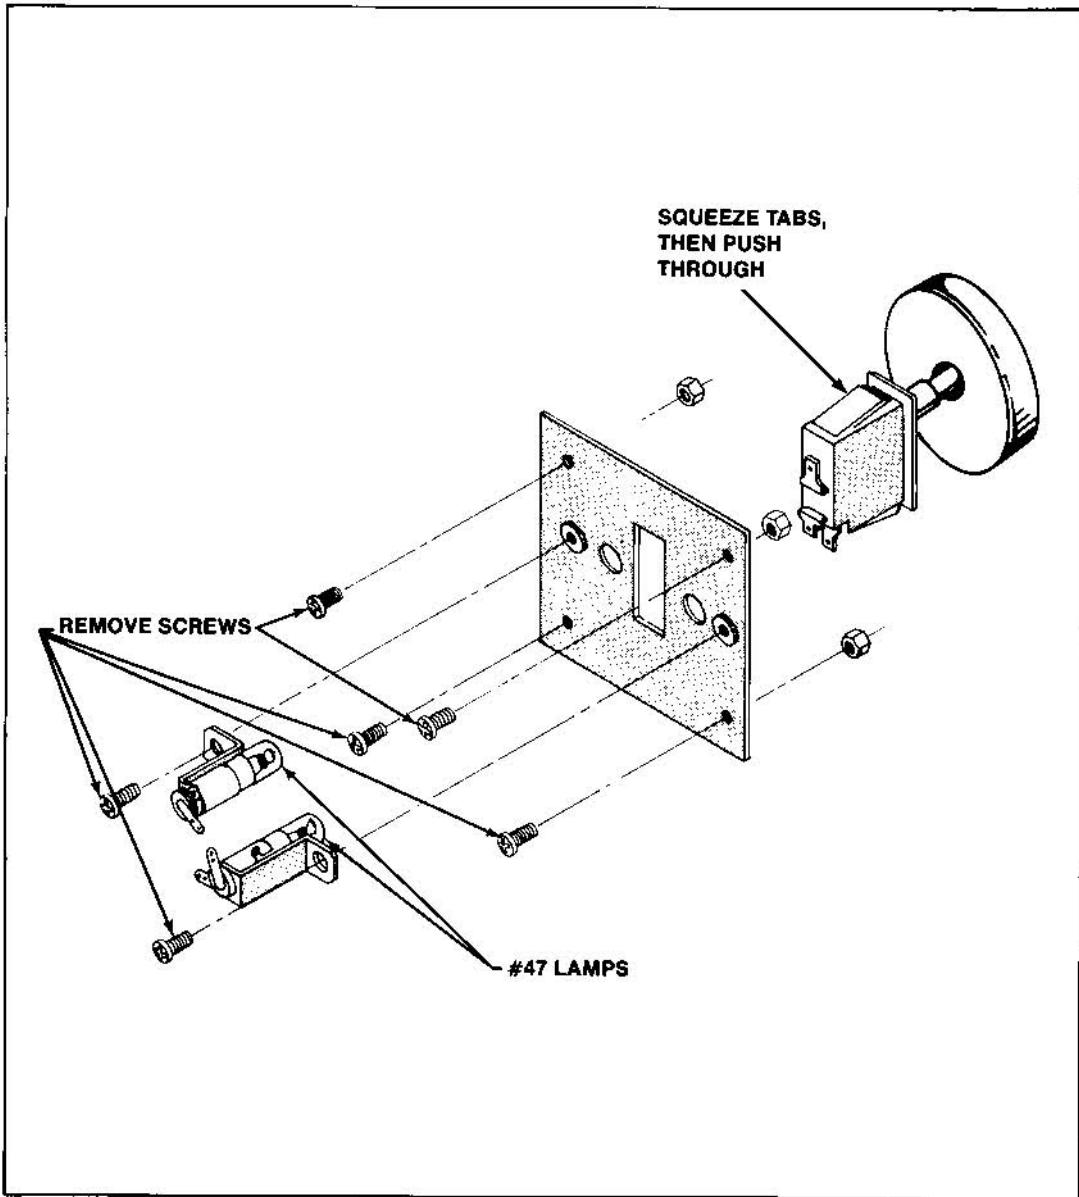

Figure 4-13 Lamp Start Switch Removal
H. LAMP START SWITCH (See Figure 4-13)
two #47 lamps. The switches themselves are cherry switches with gold-plated contacts. To replace either start switch, see the procedure outlined in Figure 4-13.